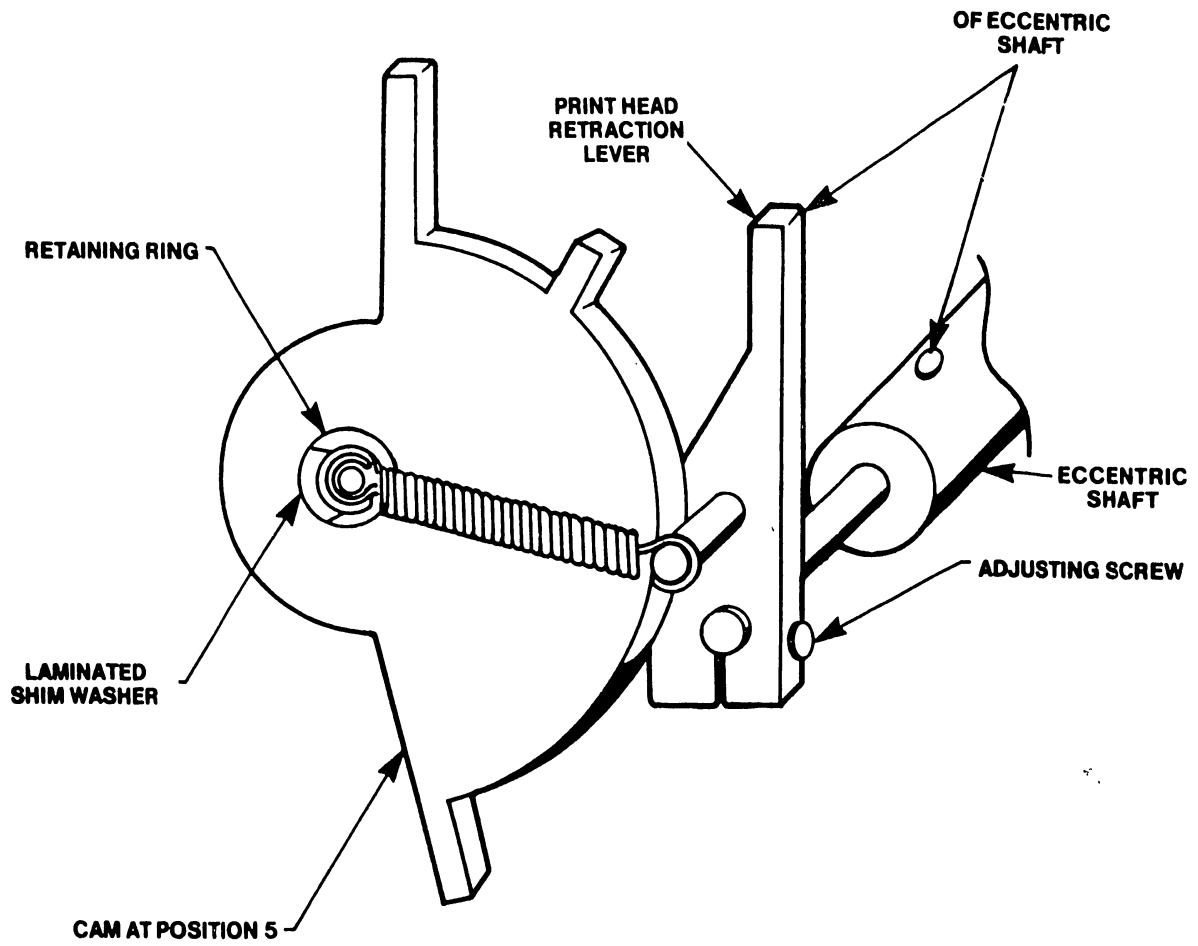

Figure 5-1 Retraction Lever
- b. Set the print head retraction lever so that the set screw on the carriage shaft is facing directly upward as shown in Figure 5-1.
- b. Set the print head retraction lever so that the set screw on the carriage shaft is facing directly upward as shown in Figure 5-1. Use an Allen wrench as a lever to hold shaft and maintain the straight up position of the Allen screw.